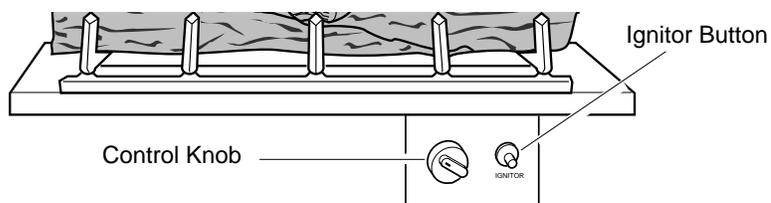

Figure 28 - Control Knob and Ignitor Button Location
4. Wait five (5) minutes to clear out any gas. Then smell for gas, including near the floor. If you smell gas, STOP! Follow “B” in the safety information above. If you don’t smell gas, go to the next step.
5. Slightly depress and turn control knob counterclockwise  to the PILOT position. Press in control knob for five (5) seconds (see Figure 28, above).